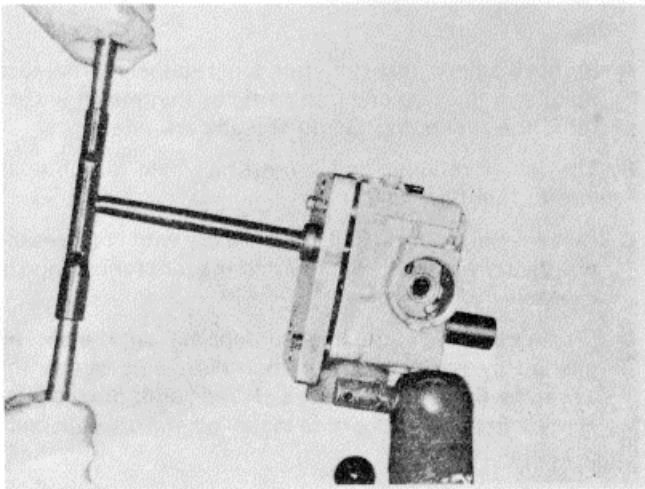

Figure 16G-12A. Reaming Drive Shaft Bushing with ST-490
5. Line ream bushing to 0.7495 to 0.7505 inch (19.04 to 19.06 mm) with ST-490 Ream Fixture, and a well oiled 0.750 inch (3/4 inch (19.05 mm)) reamer, Figure 16G-12A. Check bushing inside diameter.